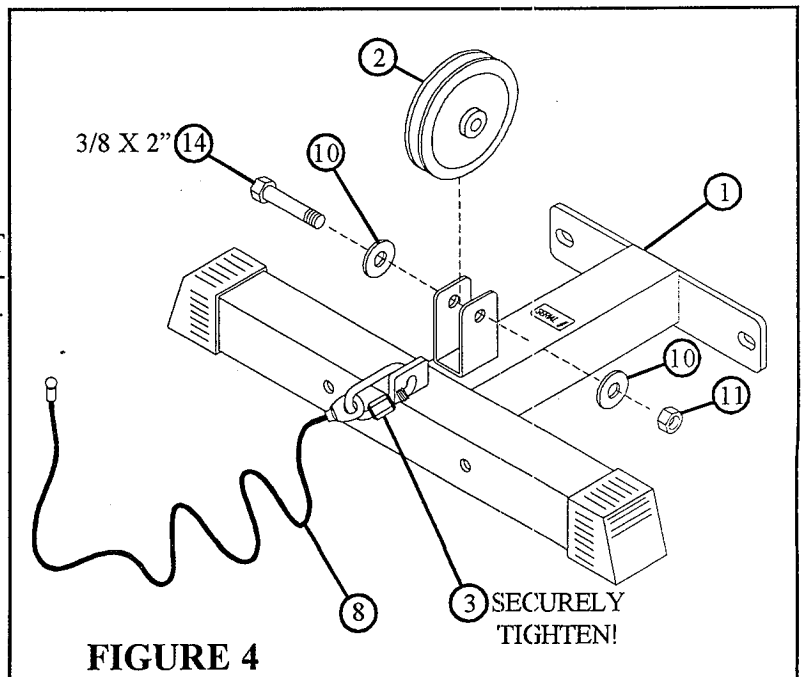

FIGURE 4
- **SECURELY** attach one 3-1/2" PULLEY (2) to the FRONT LEG (1) using one 3/8 X 2" BOLT (14), two 3/8" WASHERS (10), and one 3/8" LOCK NUT (11). See FIGURE 4.
- Attach the open end of PRESS LINK CABLE (8) to the QUICK DISCONNECT LINK (3). See FIGURE 4.
- **SECURELY** tighten the QUICK DISCONNECT (3) to the tab on the FRONT LEG (1) as shown in FIGURE 4.